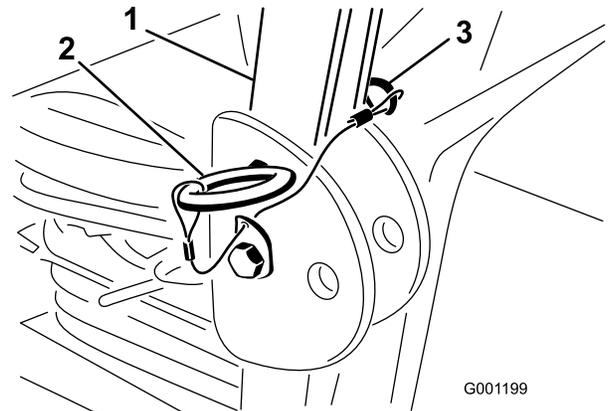

Figure 29
1. To lower the roll bar, remove the hairpin cotter pins and remove the two pins (Figure 29).
3. Install the two pins and secure them with the hairpin cotter pins (Figure 29).
- To raise the roll bar, remove the hairpin cotter pins and remove the two pins (Figure 29).
- Raise the roll bar to the upright position and install the two pins and secure them with the hairpin cotter pins (Figure 29).